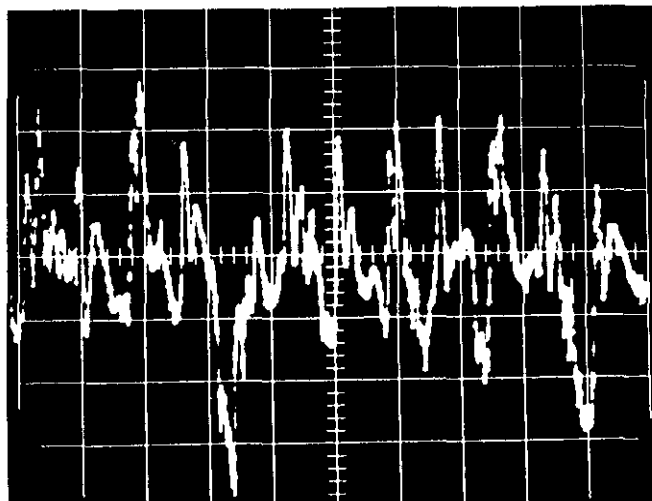

FIGURE 12. Wave Form with R1046 Adjusted. A Tektronix Type 503 Oscilloscope was used; horizontal sweep was 20 msec/cm; vertical, 500 mv/cm.
2. To adjust the potentiometer, set the Reference Voltage Dials to zero and short the input terminals. Attach an oscilloscope to the junction of capacitor C1014 and resistor R1034 (from pin 6 of V1002). Figure 12 shows the wave form if potentiometer R1046 is adjusted for minimum output.